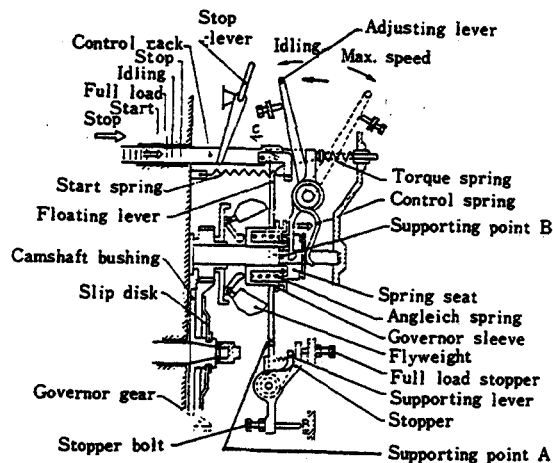

Fig. 3-29 RUV governor, movement of idling
- 3) Fig. 3-29 shows the situation of idling. Flyweight, though it is lower speed, expand to the outside by centrifugal force, overcome weak spring force and push the governor sleeve to the right hand with spring lever. Therefore floating lever's supporting point (B), which touch to governor sleeve,